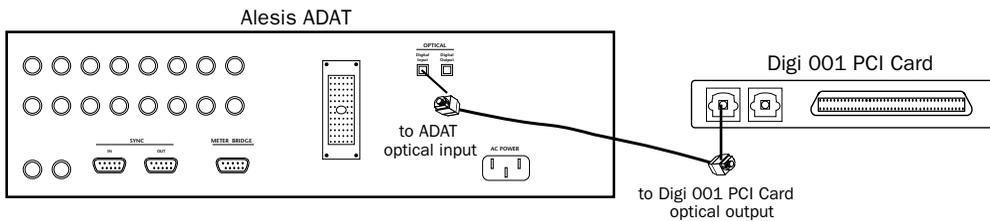

Figure 14. Connecting ADAT optical input to the Digi 001 PCI Card optical output
- 2 Connect the ADAT optical input to the Optical Out port on the Digi 001 PCI Card (see Figure 14 on page 41). When the Digi 001 is on, its Optical Out port emits a red light.